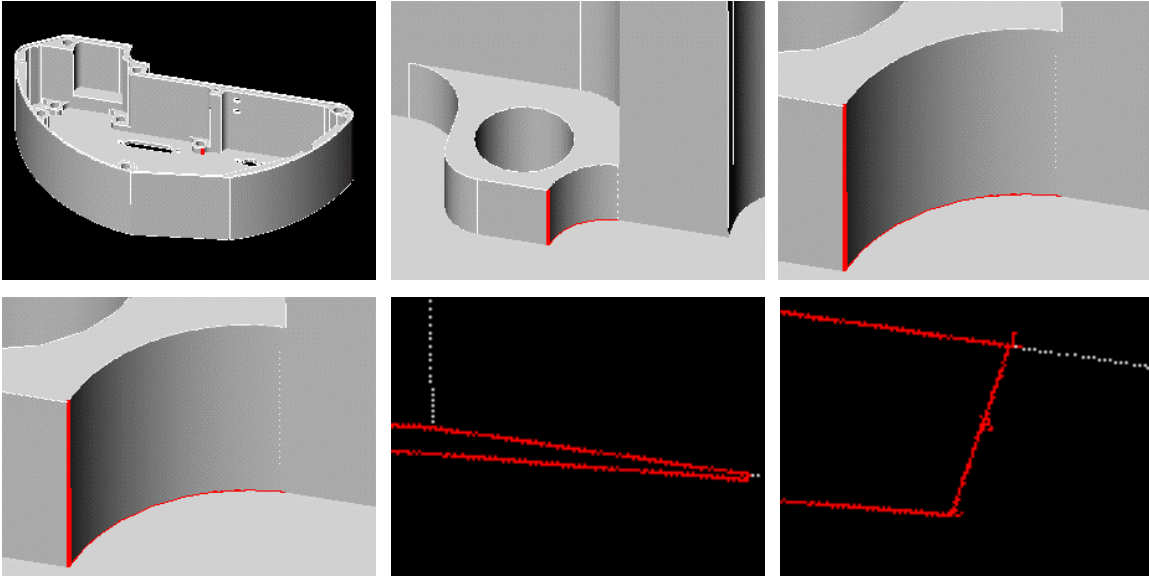

Figure 5 - Model Quality Software can identify sliver faces.
**Realism.** Realism errors render a part "unmanufacturable" due to physical limitations. Realism errors include transition cracks and sliver faces (see Figure 5).